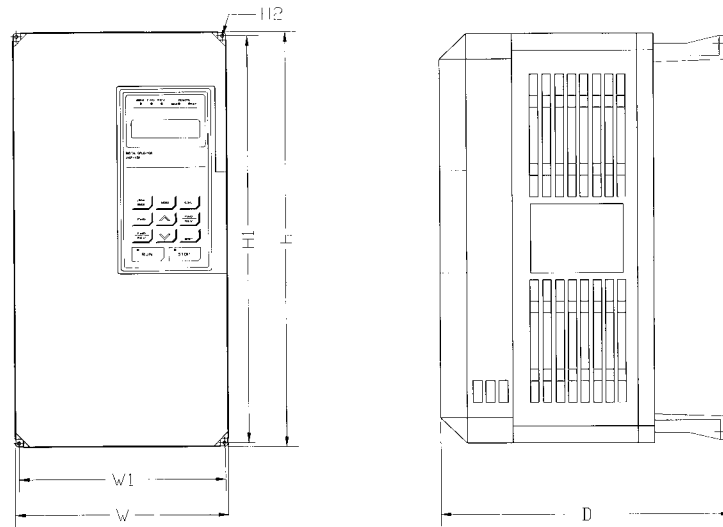

Figure 2-6: Open Chassis
3. Determine the sizes and connection locations for the drive components and external devices that need to be wired. Locate the ground. For exact dimensions, see Figures 2-6: “IMPULSE•G+ Series 2 Dimensions—Open Chassis,” pages 2-9 through 2-11.